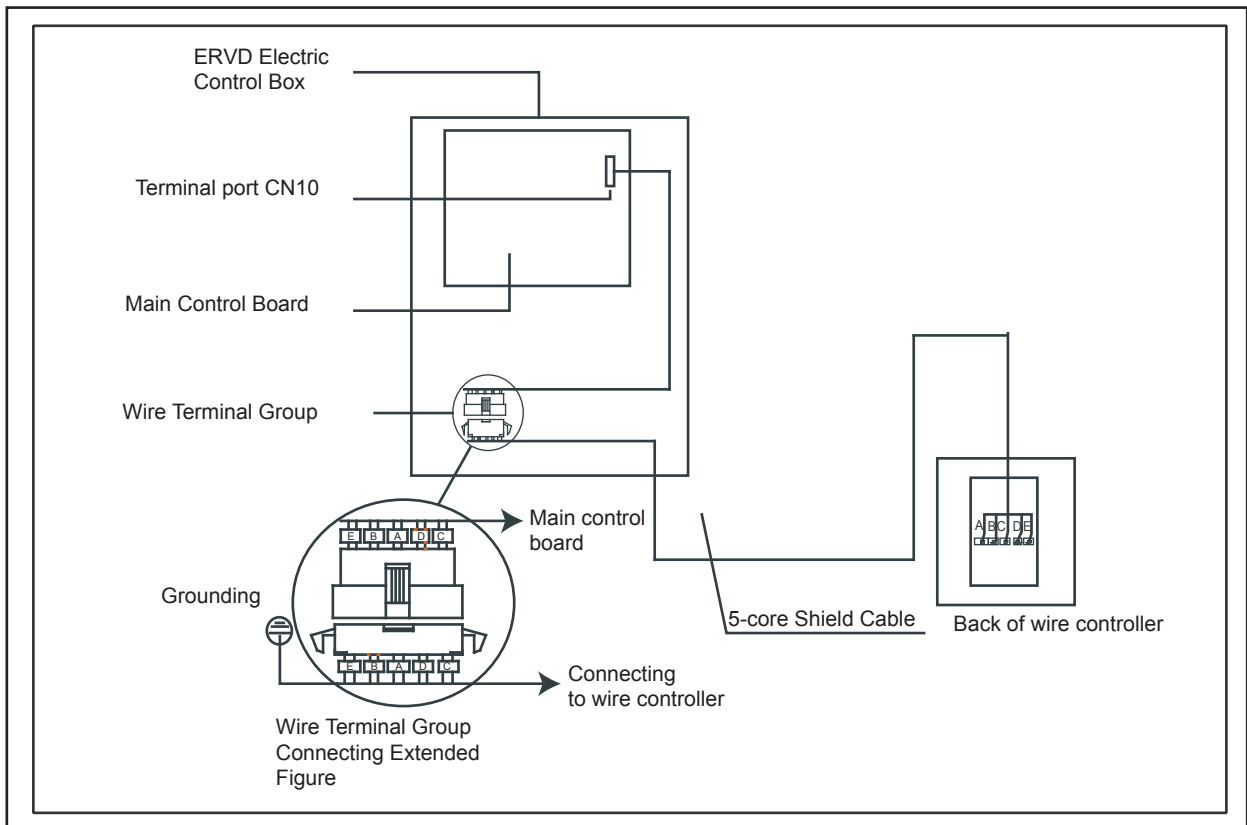

Fig. 4-2
2. For the new version, Fig 4-2, the wire controller connected to the Main Control Board directly.